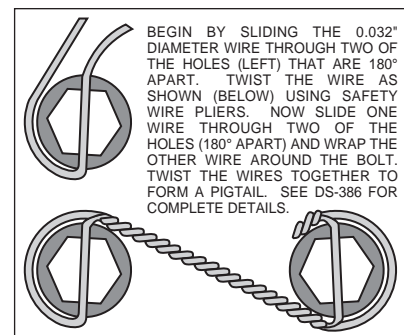

Figure 3. Safety Wire Diagram
- The caliper mounting bracket (1) should be installed first with clean, dry threads on the mounting bolts. **NOTE:** Caliper bracket provided has mount points to allow mounting to rear ends that use either 11.66" diameter or 10.51" diameter rotors. Mount point (A) is for rear ends with 11.66" OE rotors, mount point (B) is for rear ends with OE 10.51" rotors. Install the bracket (1) on the outboard side of the stock bracket by sliding bolt (2) from the inboard side of the hub assembly through washer (3) and the sleeve (4) which is inserted inside the existing OEM caliper mounting holes. Place two shim washers (16) between the hub and the caliper mounting bracket (1). The mounting bracket (1) must tighten squarely against the outboard side of the stock bracket face. Inspect for interference from casting irregularities, machining ridges, burrs, etc. Use two shims (16) between the mounting bracket (1) and stock bracket during initial trial fitting.
- With the larger I.D. side of the rotor (6) facing away from the hat (7), bolt rotor (6) to hat (7) through the backside of the rotor using washers (8), and bolts (9). Using an alternating sequence, apply red *Loctite*® 271 to the threads and torque bolts to 155 in-lb. For an added measure of security, the bolts may be safety wired using standard 0.032 inch diameter stainless steel safety wire as shown in Figure 3. Please refer to Wilwood's data sheet DS-386 (available at www.wilwood.com/Pdf/DataSheets/ds386.pdf) for complete safety wire installation instructions.
- Slide the brake pads (15) up into the caliper (10) from the bottom until the "v" spring clip snaps into place against the anvil. They should install easily without interference.
- Lubricate caliper mounting studs and nuts with lightweight oil. Install two shims (14) over each stud (13) on the radial mount bracket (2). Slide the caliper (10) in place over the studs and rotor and install the washer (12) and lock nut (11) to hold the caliper in place. The caliper bleed screw should be pointing toward the rear of the vehicle. Snug the lock nuts (11) and check that the caliper (10) is centered over the rotor (6). Add or subtract .016" shims (5) and/or .030 shims (16) as necessary between the caliper mounting bracket (1) and the stock bracket to center the caliper (10) on the rotor (6).
- Check that the outside radius of the brake pad (15) is aligned with the outside diameter radius of the rotor face. Add or subtract shims (14) between the caliper (10) and caliper mounting bracket (1) to gain the proper alignment.
- Once all clearances have been checked, remove the wheel, caliper and rotor from the axle flange. Secure the caliper mounting bracket (1) to the spindle face while applying red *Loctite*® 271 on the bolt threads (2). Torque the bolts (2) to 35 ft-lbs.. Reinstall the rotor and again use several lug nuts to hold it in place. Reinstall the caliper, torque the caliper nuts (11) to 30 ft-lbs.